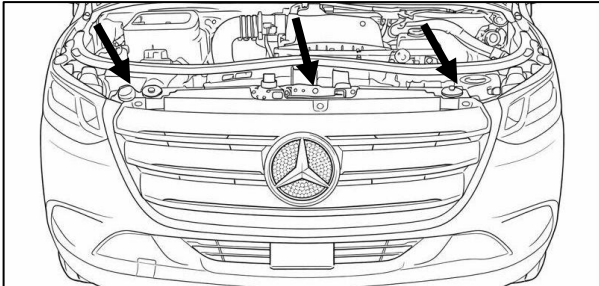

Figure 1: Grille Bolt Locations
2. ☐ Remove the (3) screws located on the top of the grille using a T25 driver. **See Figure 1.**